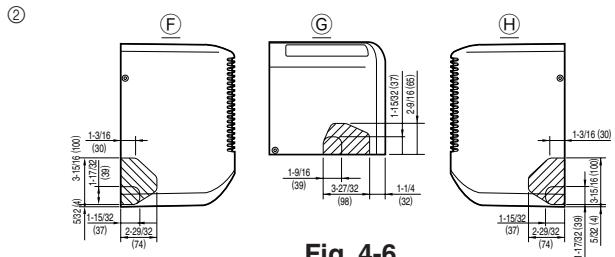

Fig. 4-6
- (B) Drain hose
- (C) Liquid pipe
- (D) Gas pipe
- (E) Drain hose in left-side piping
② Determine the position of the knockout holes on the unit body. (Fig. 4-6)
- (F) For left-side piping
- (G) For lower-side piping
- (H) For right-side piping